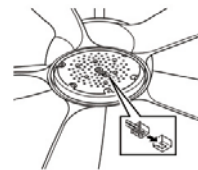

FIG.14
4. Plug together light kit wires from fan to LED light kit . (see Fig. 14)